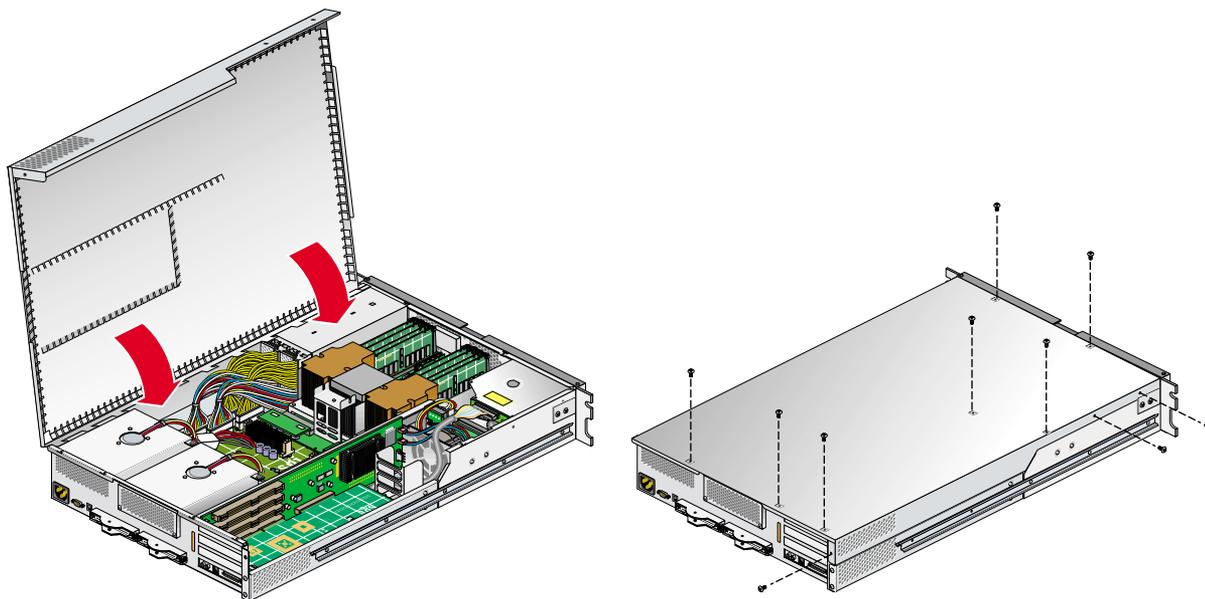

Figure 7-2 Closing the System Cover
3. Close the hinged cover on the system and screw in the ten Phillips screws to secure the cover, as shown in Figure 7-2.